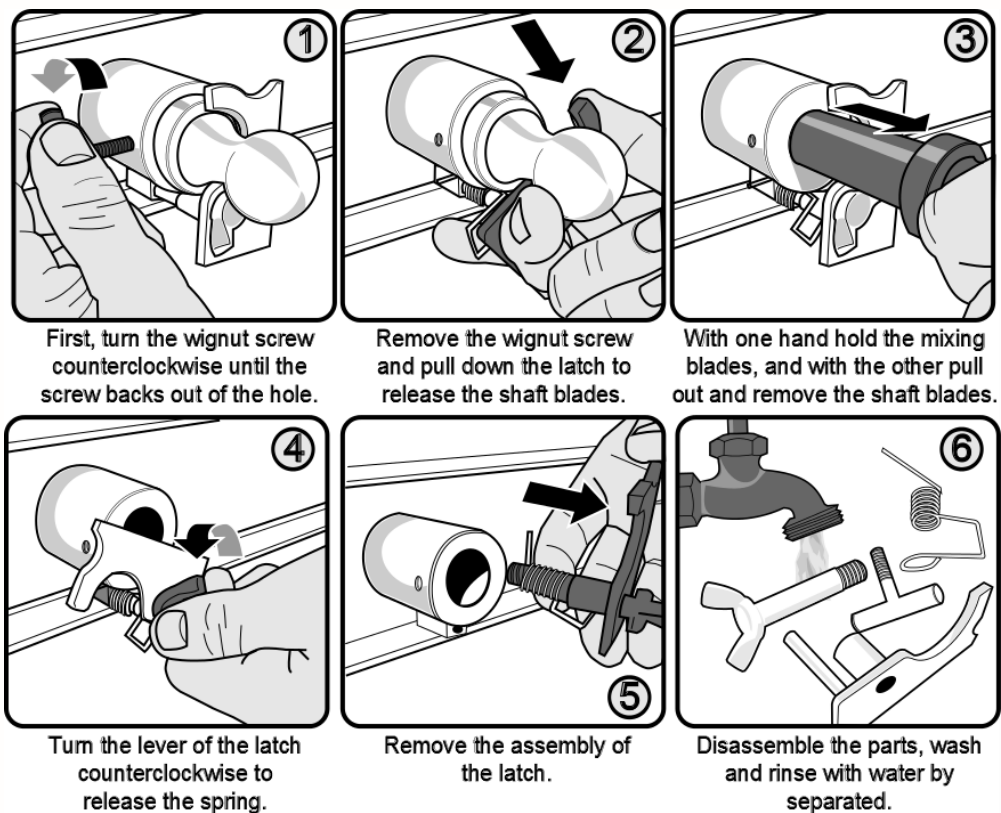

FIG. 9 STEPS TO REMOVE AND CLEAN THE LATCH SYSTEM
How to remove Mixing Unit (You need to release the latch system Fig. 9).
- Open the hopper guard (19).
- Remove and clean the mix blades and latch system (**See Fig. 9**).
- Clean well between joints and gasket cavities (10) & (11) to avoid rests of meat keep long period of time in the equipment since they can be a health risk.